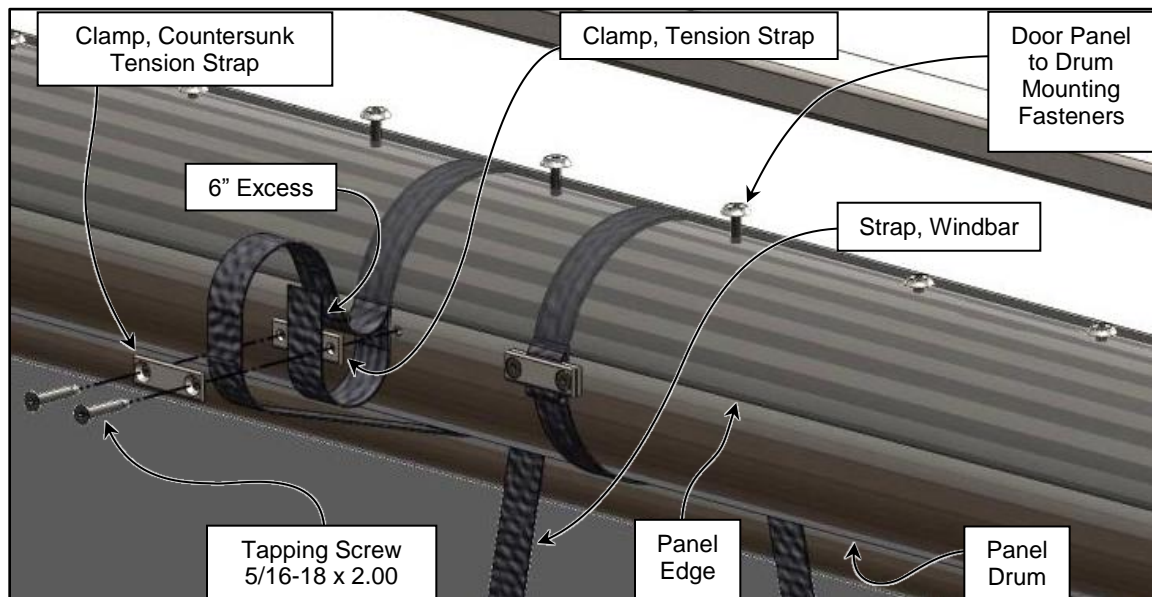

Figure 53
7. Stack the Windbar Strap Clamps over the mounting holes with the countersink of the holes in the outer strap clamp facing out and away from the drum. (See Figure 53)
8. Insert the screws again through the clamps but do not tighten leaving some clearance for inserting the straps. (See Figure 53)
- a. Loosen the existing panel/drum mounting fasteners (screws and washers) within the area of the mounting strap that is directly over, and adjacent to, the windbar straps as well as between the strap clamps. Loosen them just enough to allow installing the straps. (See Figure 53)
- b. Place a Windbar Strap on the front side of the door panel and pull one end up, between the panel and drum, **between** the two clamps. (See Figures 53 and 54)
- c. Wrap the strap one (1) full wrap around the drum, pulling the strap end **under** both clamps. (See Figures 53 and 54)
- d. Pull the strap end back **between** the two clamps in the opposite direction and **under** the strap. Leave approximately 6" of excess strap pulled through the clamps. (See Figures 53 and 54)
- b. Place a Windbar Strap on the rear side of the door panel and pull one end up and over the panel and drum, then **between** the two clamps. (See Figure 53)
- c. Wrap the strap one (1) additional full wrap around the drum, pulling the strap end under the panel and drum and **under** both clamps. (See Figures 53 and 55)
- d. Pull the strap end back **between** the two clamps in the opposite direction and **under** the strap and panel. Leave approximately 6" of excess strap pulled through the clamps. (See Figures 53 and 55)
10. Adjust the straps so they are nearly straight. Also adjust them so they are evenly and symmetrically placed on the drum and in the clamps. (See Figures 53, 54, and 55)
11. Securely fasten the straps in the strap clamps by tightening the clamp screws. (See Figures 53, 54, and 55)
12. Retighten the panel/drum mounting screws. (See Figure 53)